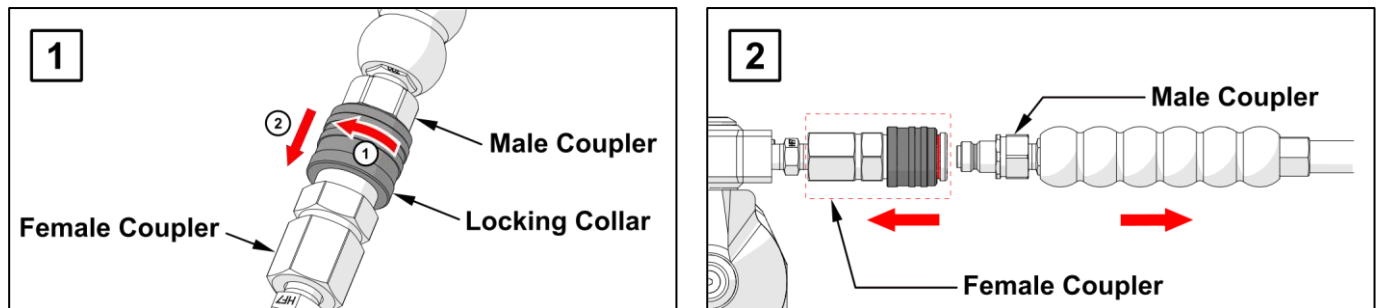

Figure 5.2: Hydraulic Disconnections
5.3.2 Disconnections (See figure 5.2 below)